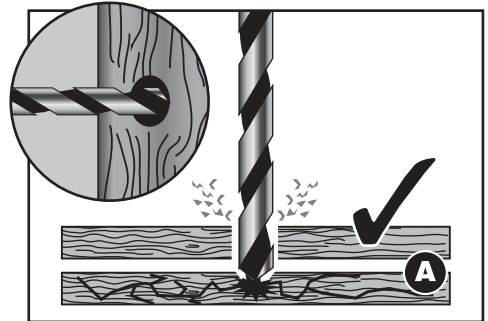

FIG.9
9.10 DRILLING WOOD AND PLASTIC – FIG. 9